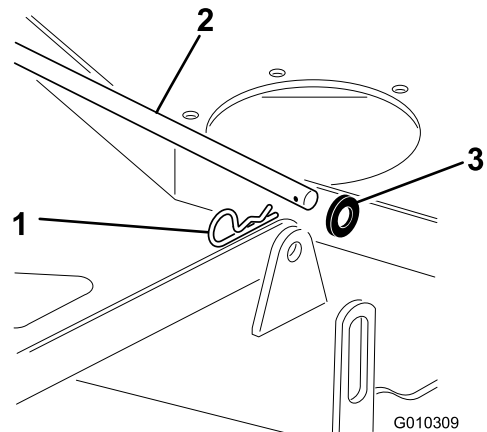

Figure 69
1. Remove the hair pin cotter and washer securing the long, link bar to the frame and deck; remove the link bar (Figure 69).
7. Install the long, link bar through the frame hanger and deck. Secure the link bar with the hair pin cotters and washers removed previously (Figure 69).